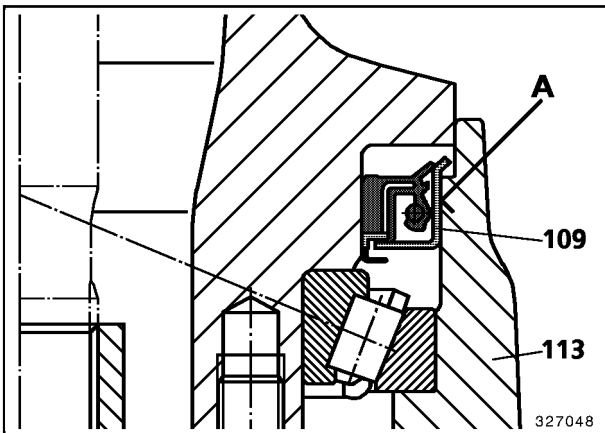

Fig. 6
Apply shaft ring (109) so that outer flange faces top. Refer to Fig. 6.